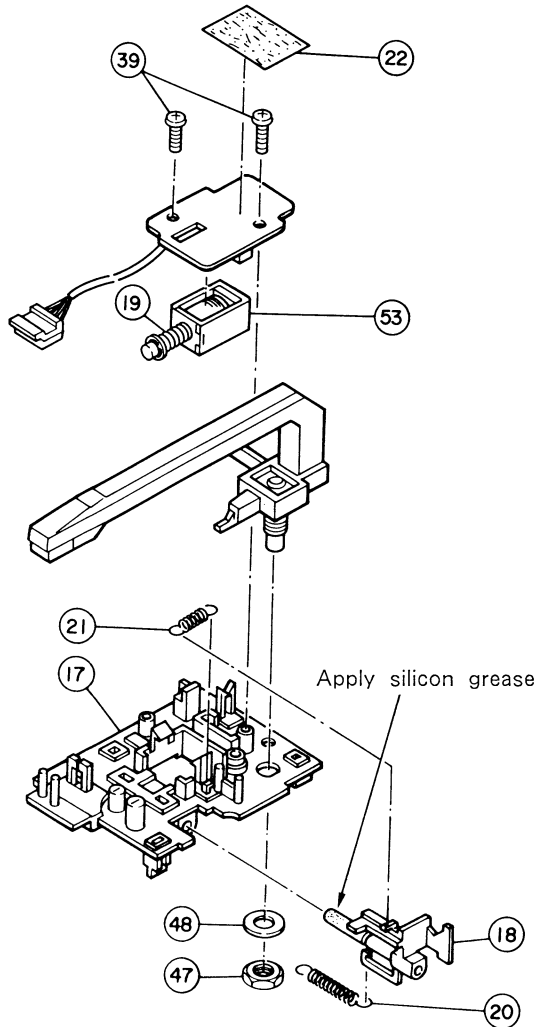

Figure 13
(A) Assembly of Bracket Assembly (17) (Figure 13)
1. Apply silicon grease to lifter arm (18) and attach to the Bracket Assembly.
2. Attach spring A (21) and spring B (20) to the Bracket Assembly and the lifter arm.
3. Attach the solenoid coil (53). (Insert the spring (19) into the shaft of the solenoid coil.)